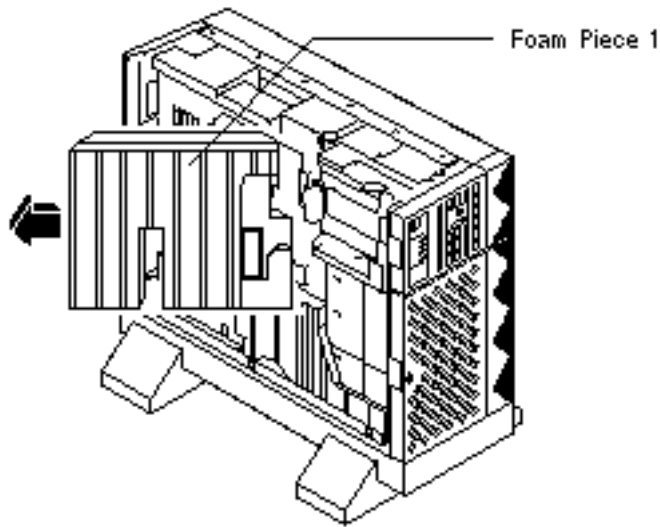

Figure 2-7 Removing Foam Piece 1
- 6. Pull Foam Piece 1 away from the Netra 150 server (Figure 2-7).**